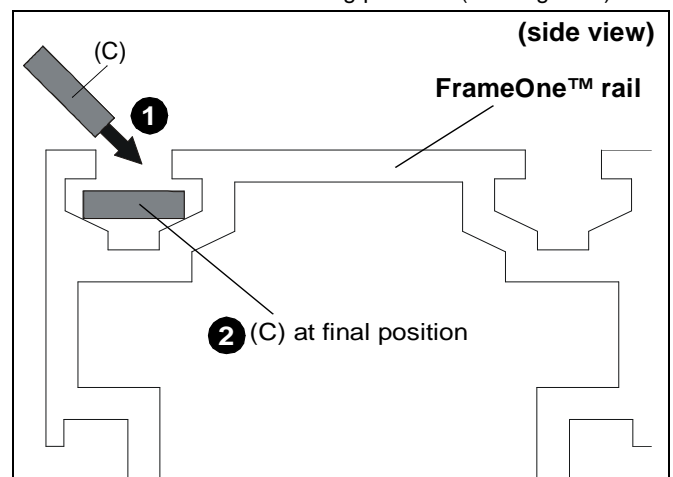

Figure 3
1. Drop channel plate (C) at an angle into front groove of FrameOne™ rail. (See Figure 3)
2. Make sure channel plate (C) lays flat in rail and slide plate until it is at desired mounting position. (See Figure 3)